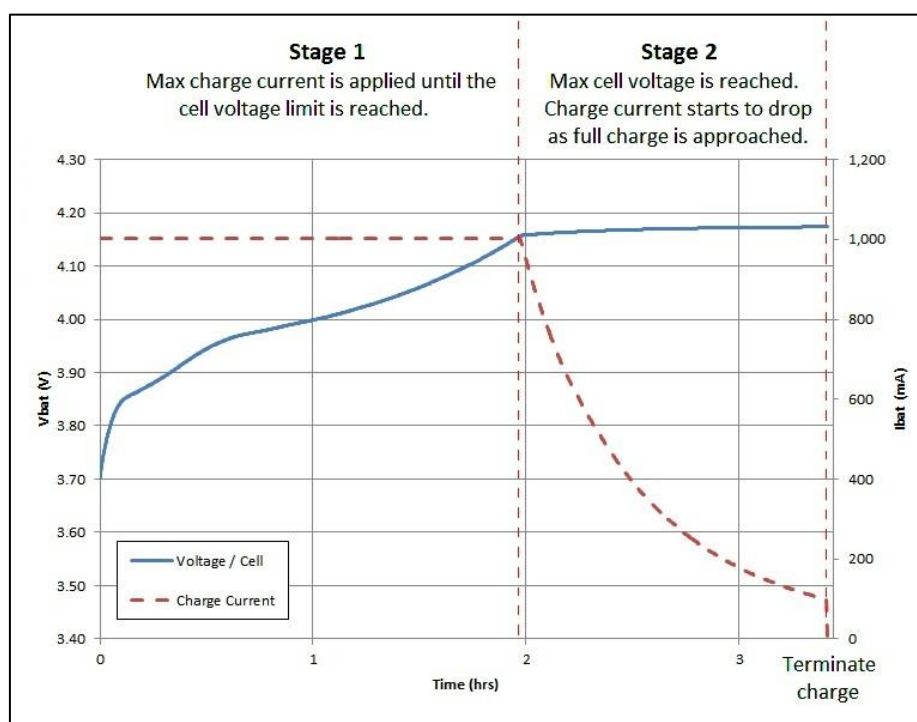

Figure 5: Charge stages of a 4.2V Li-Ion Battery
- A lower value causes a longer charging time but results in a more completely charged battery (see Figure 5).